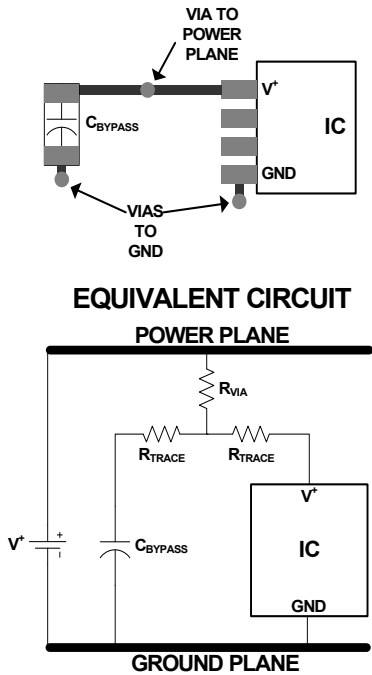
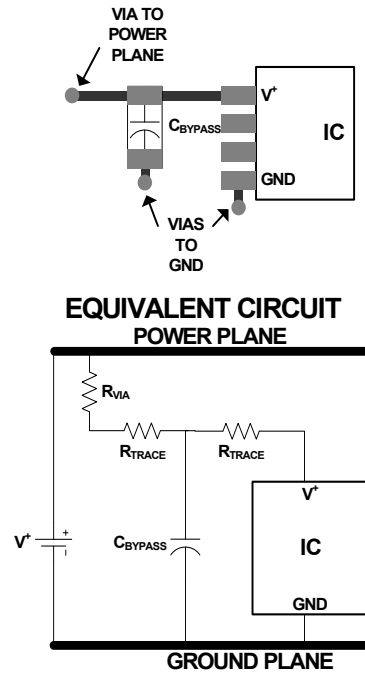

FIGURE 12. SUB-OPTIMAL BYPASS CAPACITOR LAYOUT
FIGURE 13. OPTIMAL (“T”) BYPASS CAPACITOR LAYOUT
- Ideally each supply should be bypassed to ground with a 0.1 μ F capacitor. Minimize trace length and vias to minimize inductance and maximize noise rejection. Figure 12 demonstrates a common but non-ideal PCB layout and its equivalent circuit. The additional trace resistance between the bypass capacitor and the power supply/IC reduces its effectiveness. Figure 13 demonstrates a better layout. In this case there is still series trace resistance (it is impossible to completely eliminate it), but now it is being put to good use, as part of a “T” filter, attenuating supply noise before it gets to the IC, and reducing the amount of IC-generated noise that gets injected into the supply. Follow the good supply bypassing rules shown in Figure 13 to the extent possible.